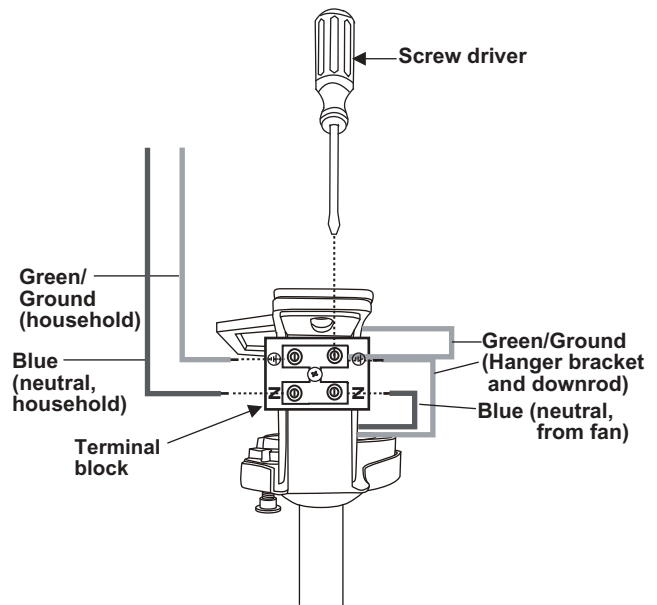

Figure 10
1. Connect the fan ground wire (green/yellow) to the terminal block marked "⊖". Connect the household ground wire to the other side of terminal block marked "⊖". Secure the wires with screwdriver. (Fig. 10 & 12)
2. Connect the fan blue wire (neutral) to the terminal block marked "N", Connect the household neutral wire to the other side of terminal block marked "N". Secure the wires with screwdriver. (Fig. 10 & 12)